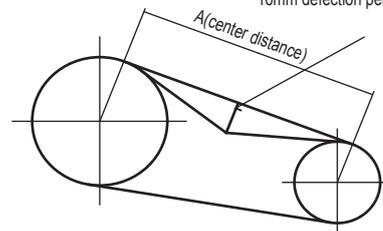

Fig. 10-4
b. Act in the middle of the belt perpendicularly with a finger. Adjust belt tension until there's deflection distance, please refer to Fig 10-4. If possible, it is better to use a tension frequency test device, in order to get a more precise tension.